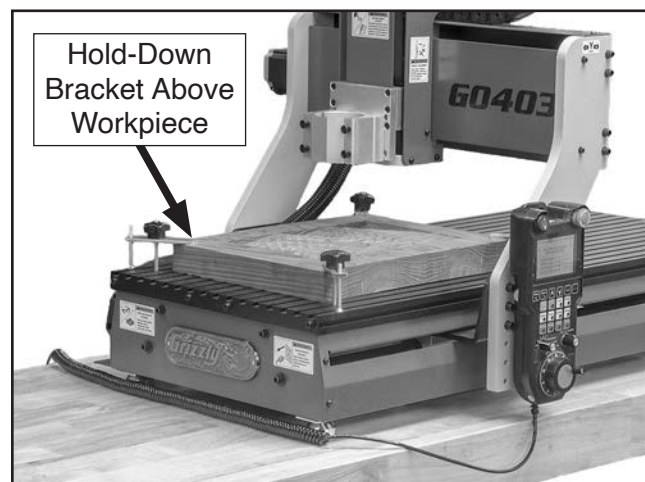

Figure 44. Example of workpiece clamped to table.
5. Slide hex bolt head into T-slot, then adjust knob so hold-down bracket is above workpiece (see **Figure 44**).